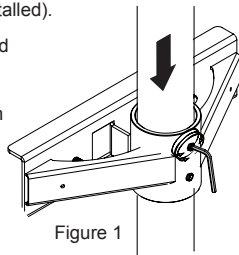

Figure 1
- 1) Slide your mounting arm adapter bracket over the pole and base (Figure 1) (not included, but should be previously installed).
- 2) Tighten the two (2) pre-installed M8 x 6mm set screws in the back of the MM-CB3 adapter bracket. Tighten with included allen key when in desired position.